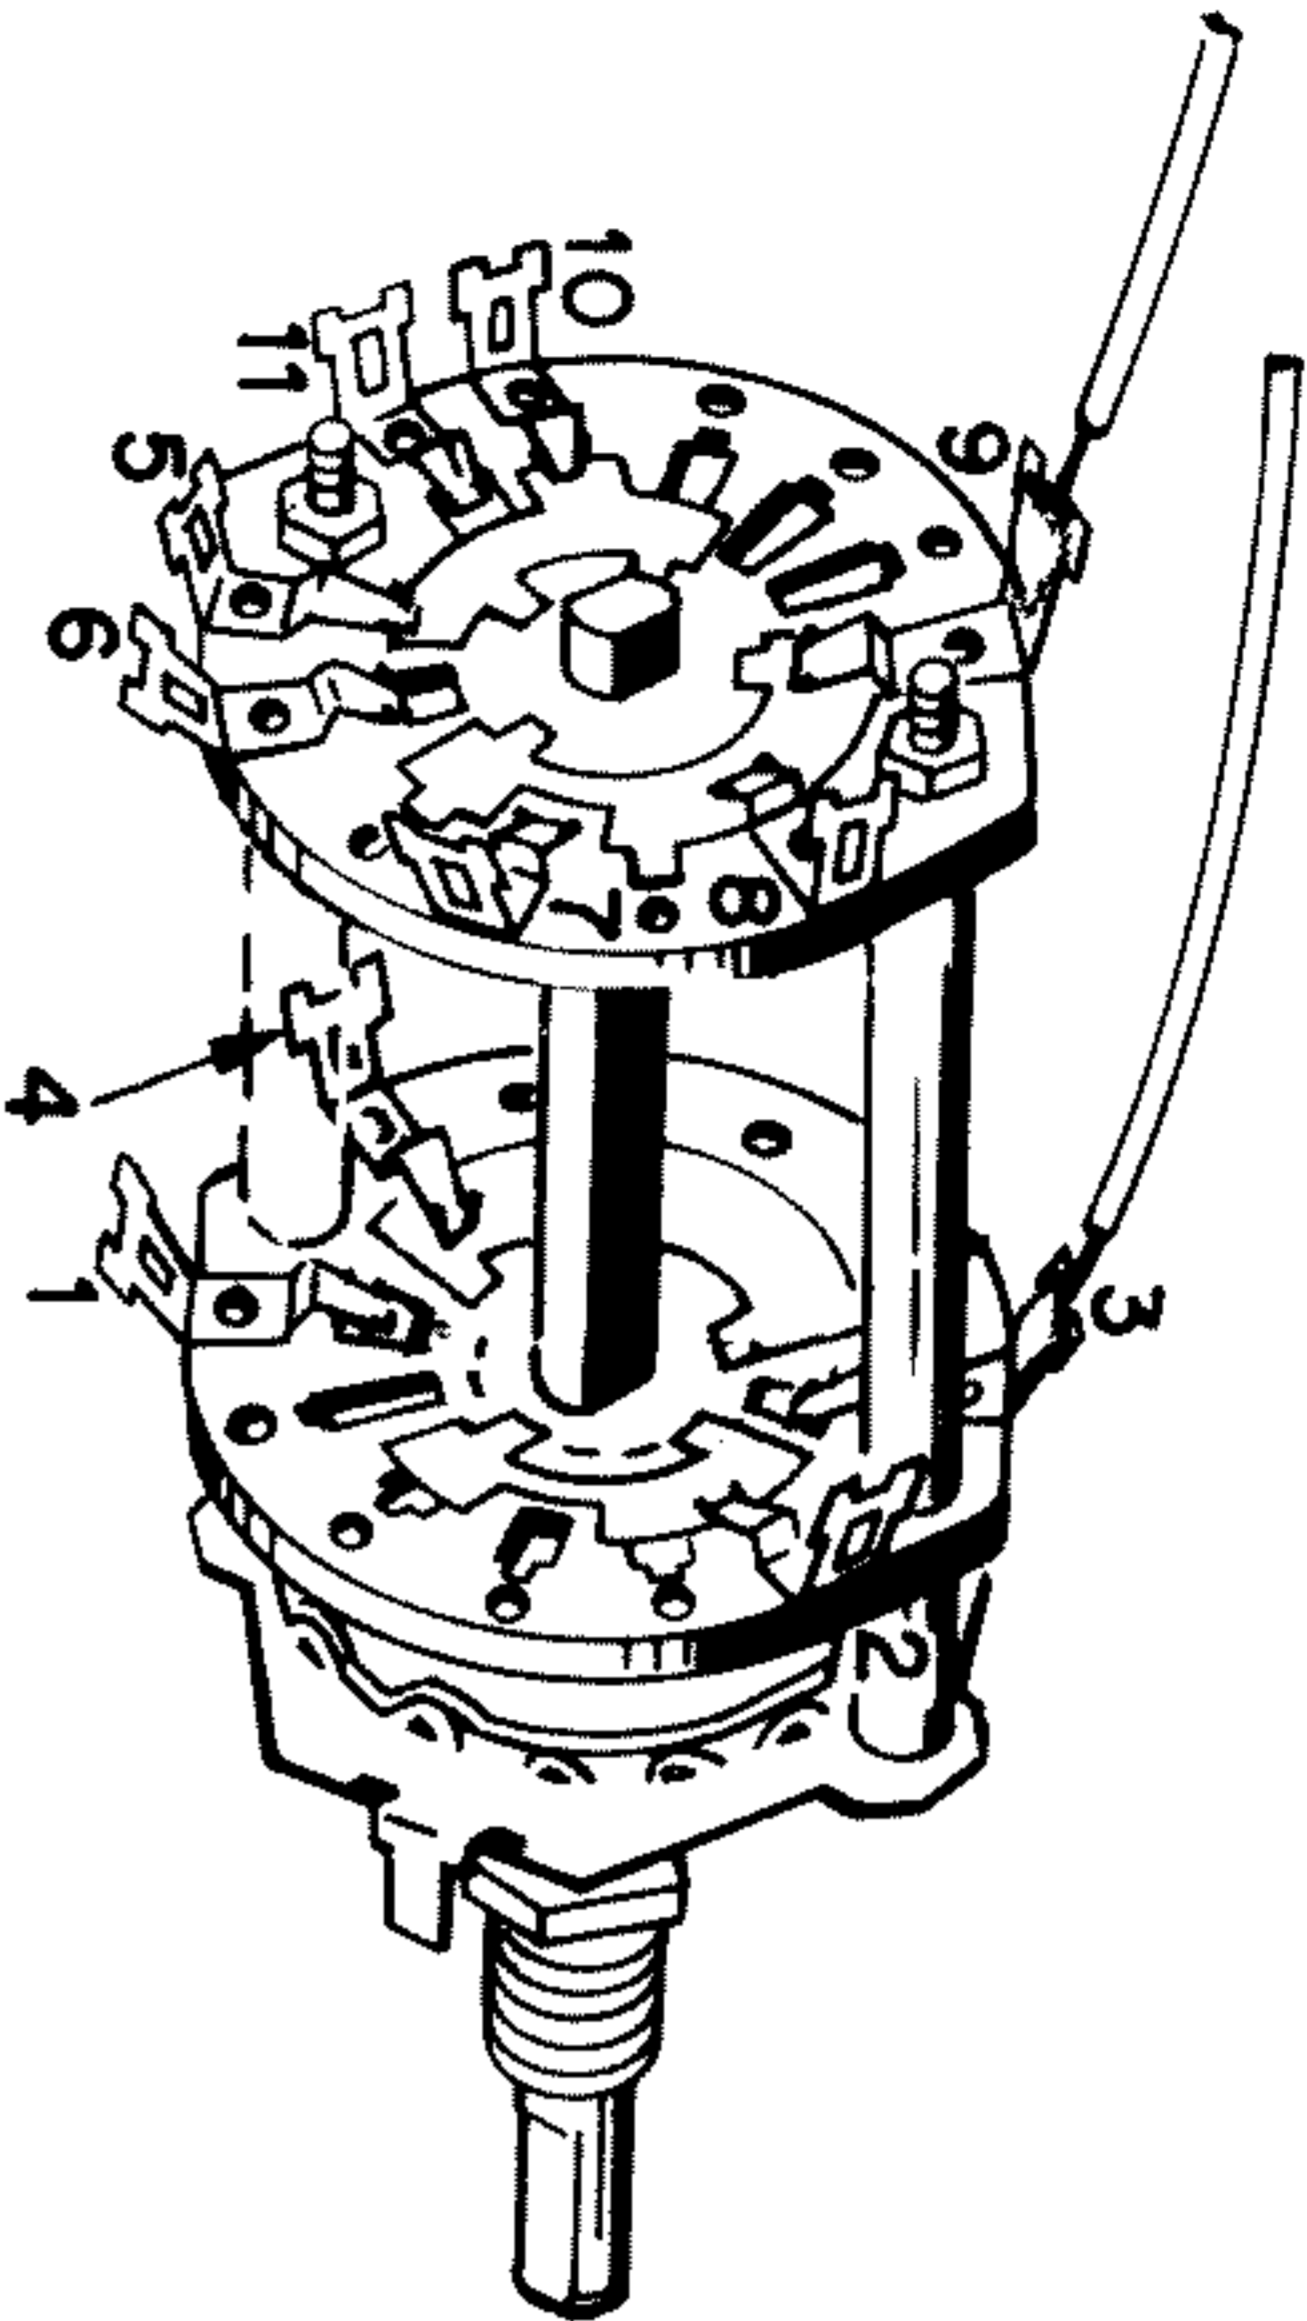

FIGURE 10
## SEE FIGURE 10
- White wire with brown tracer. Solder one end to terminal 3 of TS-2 (3 wires). Route wire as shown under C30 to terminal 4 of SW2, and solder. See Figure 10 for location of terminal 4.